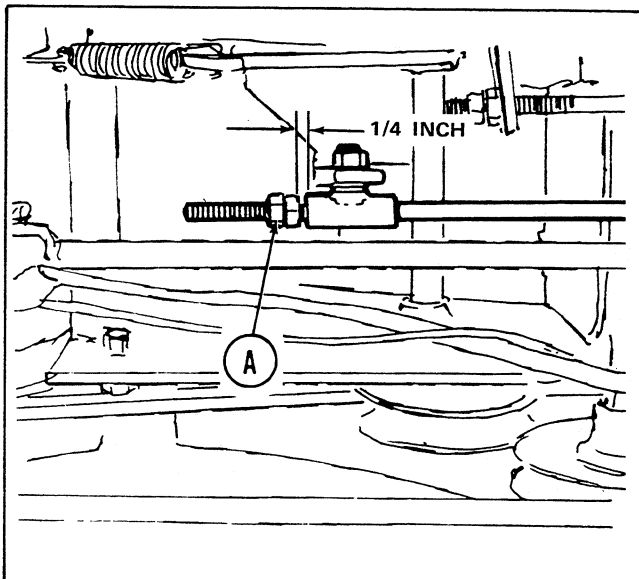

Figure 10. Clutch free travel adjustment.
See figure 10. The clutch free travel is correct when there is 1/4" between the nuts (A) and the rod guide when the clutch brake pedal is released and pulled rearward as far as it will go. If adjustment is required, proceed as follows:
2. Using two wrenches hold the forward nut at (A) stationary with one wrench while turning the rearward nut counter-clockwise slightly with the other to separate them.
4. Turn the forward nut at (A) as necessary so that the distance between it and the rod guide is 1/4" as shown in figure 10.
5. Using two wrenches hold the forward nut at (A) stationary while turning the rear one clockwise to tighten the two nuts together securely.